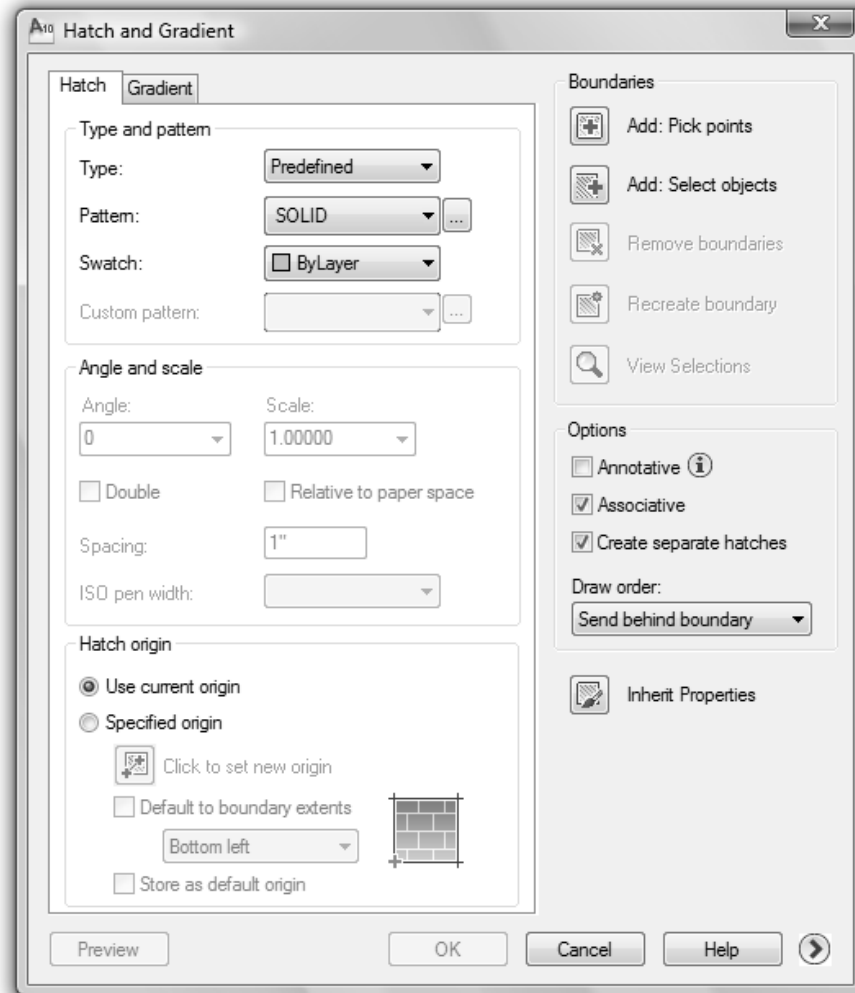

Figure 4-5.3 Hatch dialog box
4. Set the hatch *Pattern* to **Solid** (Figure 4-5.3).
5. In the *Options* area (Figure 4-5.3):